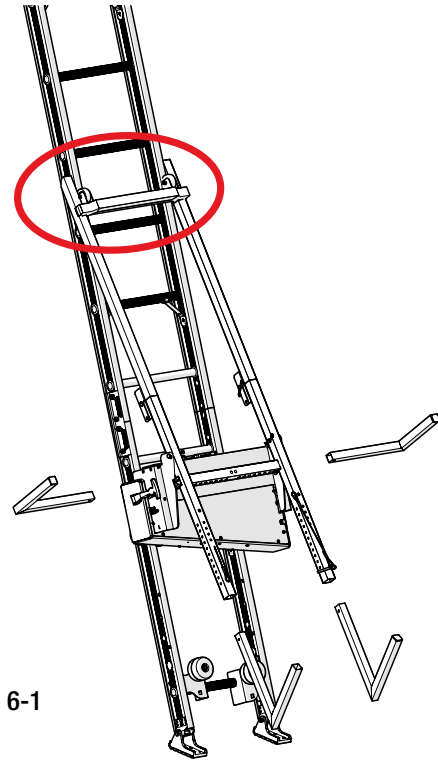

Fig. 6-1
1. When the tilt frame and base are mounted together, make sure the wheels on the panel frame align with the track. See Fig. 6-1.